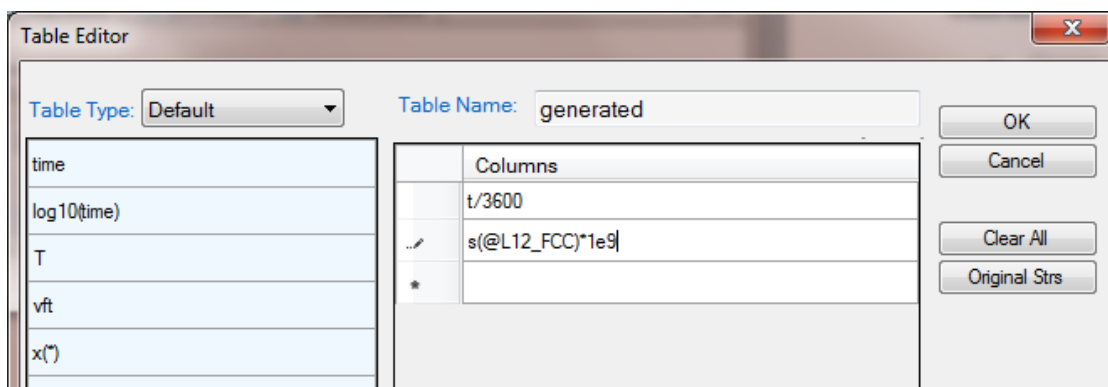

Figure 3.1.4: Create a new table with two columns with the first column time (hour) and the second column the precipitate size (nm)
- Create a new table as shown in Figure 3.1.4. A new table with two columns will be created with the first time in hour and the second size of L12_FCC in nanometer. Create a plot from this table and rename it as Size;